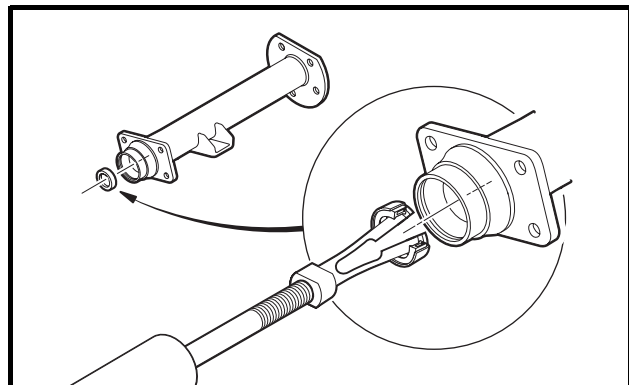

Figure 23-2 Axle Seal and Adapter Ring Removal
5. If necessary, remove the axle oil seal (15) and adapter ring (39) **(Figure 23-2, Page 23-2).**
- 5.1. Use a bearing puller (CCI P/N 1016417) to remove the axle seal and adapter ring from the axle tube **(Figure 23-2, Page 23-2).** See following **CAUTION** and **NOTE**.